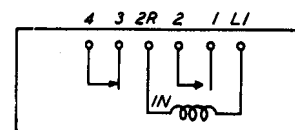

Fig. 113 – Winding and Spring Terminal Arrangement as Viewed From Rear (terminal side) — 1- and 2-Type Timers
**4.19** The contact springs are numbered consecutively from left to right facing the contact side of the timer and from right to left facing the terminal side. Balancing springs (springs not equipped with contacts) are not numbered. (See Fig. 113.)